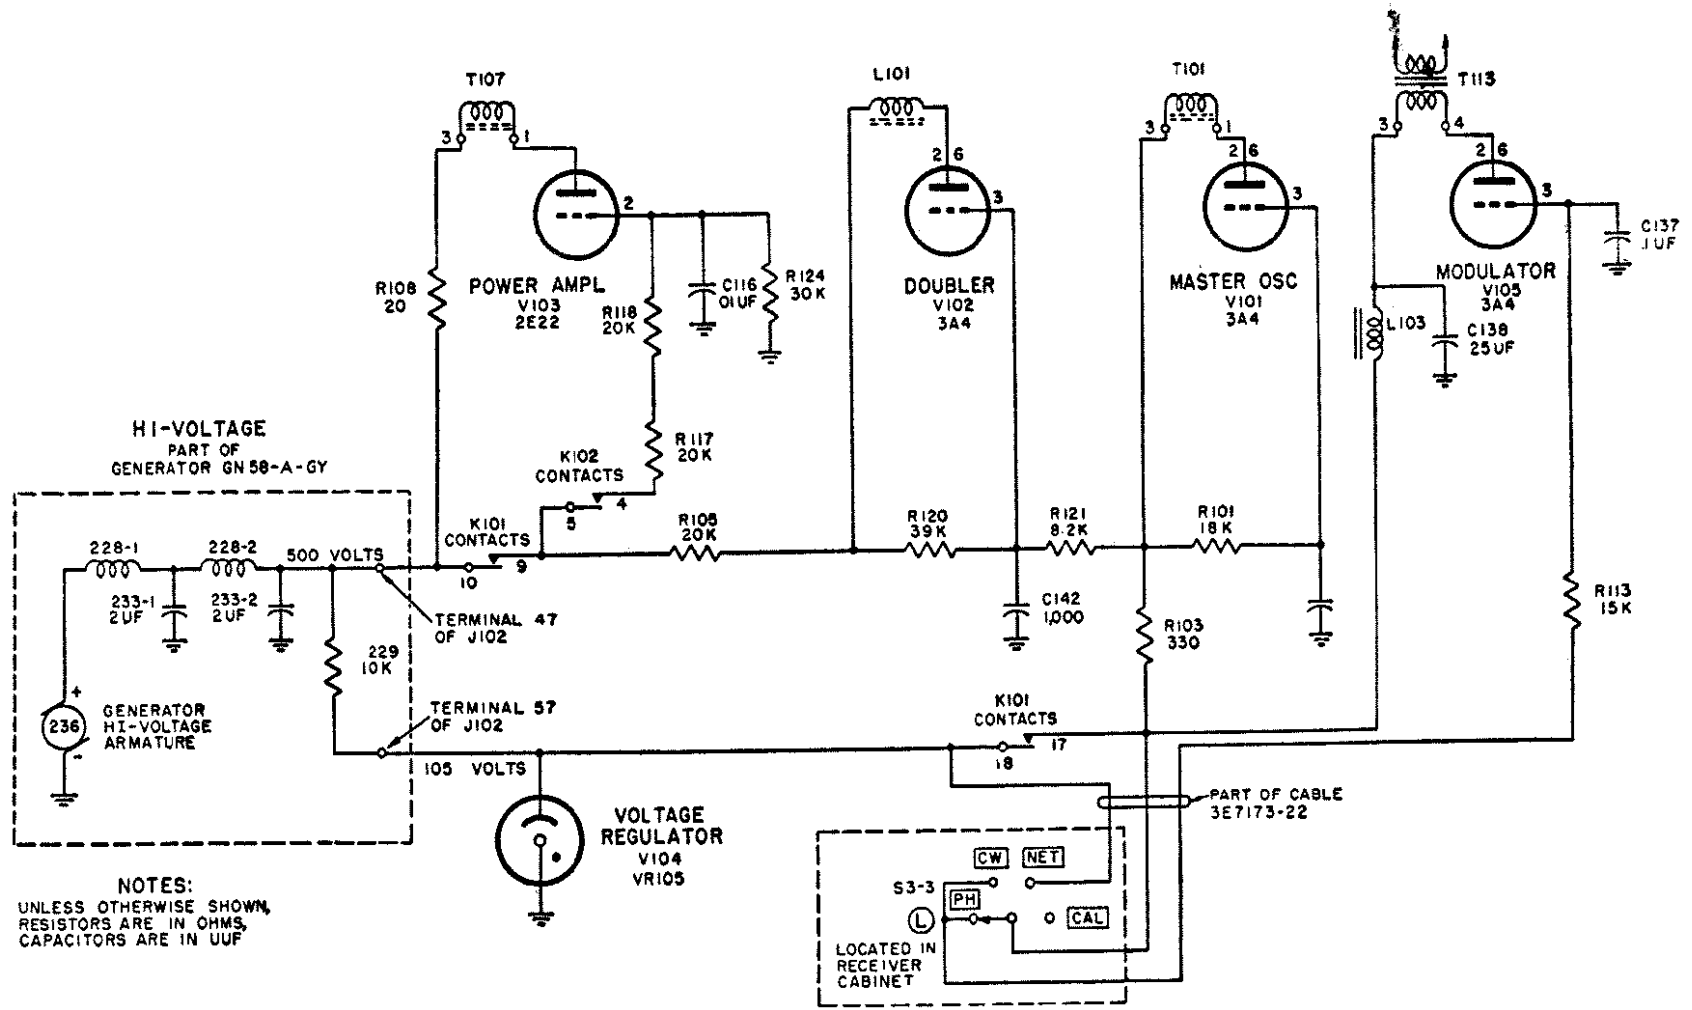

Figure 82. Transmitter plate and screen grid voltage supply circuits, simplified schematic.
c. **GENERATOR POWER SUPPLY.** The 105-volt output of the generator enters the transmitter through terminal 57 of J102 and is fed to the SEND tap on switch S103D, control E. When control E is placed on SEND, the voltage is fed to pins 3 and 5 of V104 (voltage regulator tube) and reaches the contacts of keying relay K101, through the internal connection between pins 3 and 7 of V104. When contacts 17 and 18 and contacts 9 and 10 of relay K101 are open, none of the plates or screens of the tubes receive voltage, except the plate of V103 (fig. 82). If the key or press-to-talk switch on the microphone is depressed, these contacts close; all tubes receive voltage and the transmitter is in operation.
d. **OVERLOAD RELAY.** Contacts 5 and 4 of overload relay K102 are in series with the dropping resistors to the screen grid of the power amplifier tube V103 (fig. 82). These contacts normally are closed. Should the signal voltage on the control grid of V103 fail, the tube would no longer be negatively biased, and a very large plate current would result, which could ruin the tube. In order to avoid this possibility, a relay coil is placed in series with the signal grid and the contacts of the coil are placed in series with the screen grid. These are contacts 5 and 4. Therefore, if the signal fails, no current is drawn and the relay coil is deenergized; the contacts open, thus removing screen grid voltage from V103 and reducing the plate current to almost zero.
button is not depressed, relay K101 contacts 17 and 18 will not be closed and the transmitter tubes will not receive plate and screen voltages. To overcome this, only oscillator tube V101 and doubler tube V102 are fed with enough operating plate and screen grid voltages. This is accomplished with switch S3-3, control L, which is located in the receiver cabinet and is connected to the transmitter by cable assembly 3E7173-22-GY. When switch S3-3 is turned to NET, it shorts out contacts 17 and 18 of relay K101 (fig. 82). This allows the combined plate and screen grid currents of the doubler and oscillator tubes to flow through resistor R103 and switch S3-3 to terminal 57 of receptacle J102, and from there, by Cord CD-1086-GY, to the generator. Switch S3-3 also disconnects the screen grid of the modulator tube V105 from the voltage source so that the tube is inoperative. This prevents sidetone from interfering with the zero beating in preparation for net operation.